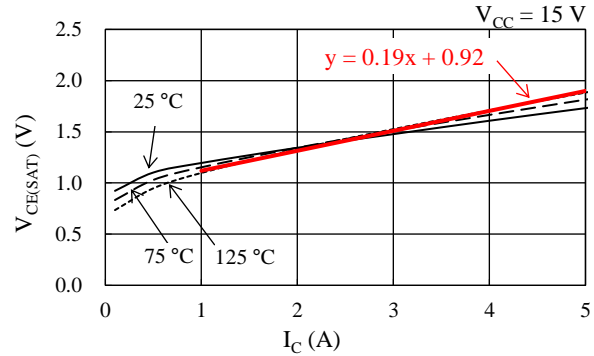

Figure 13-1. Linear Approximate Equation of $V_{CE(SAT)}$ vs. I_C
Steady-state loss in an IGBT can be computed by using the $V_{CE(SAT)}$ vs. I_C curves, listed in Section 14.3.1. As expressed by the curves in Figure 13-1, linear approximations at a range the I_C is actually used are obtained by: $V_{CE(SAT)} = \alpha \times I_C + \beta$. The values gained by the above calculation are then applied as parameters in Equation (1), below. Hence, the equation to obtain the IGBT steady-state loss, P_{ON} , is: